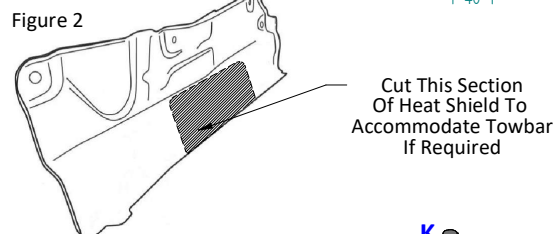

Figure 5
4. Loosely fix item **D** and item **E** to item **A** using items **G** and items **M** and items **F** with items **M** to the position as shown in **Figure 5**.